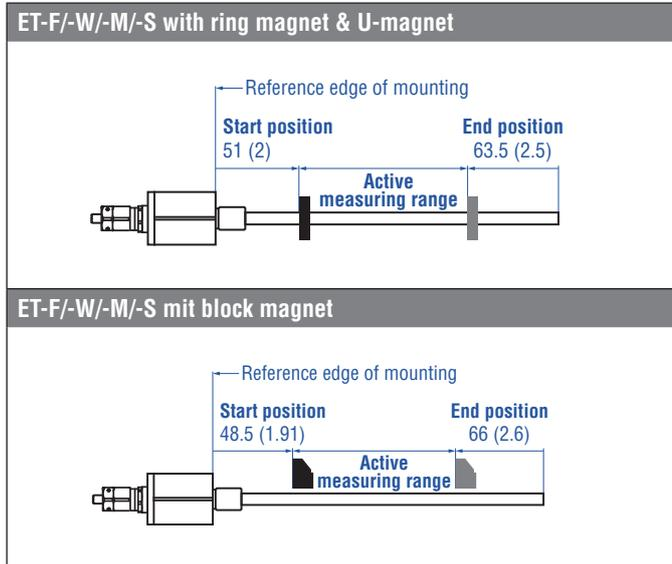
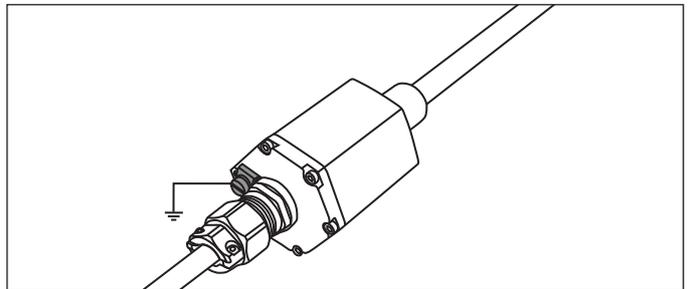
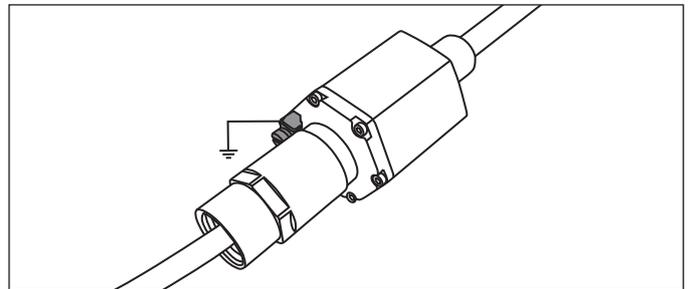

Fig. 13: Start and end positions of magnets
Fig. 14: Grounding via ground lug (version A, N)
Fig. 15: Grounding via ground lug (version E)
- Mount block magnets centrically over the sensor rod or the sensor profile. The maximum permissible air gap must not be exceeded (Fig. 13/ Fig. 14). Take care to mount the primary sensor axis in parallel to the magnet path in order to avoid damage to the carriage, magnet and sensor rod profile.
Connect the sensor electronics housing to machine ground. Ground sensor type ET version A (with ATEX/IECEX/CEC NEC/CCC approval) via ground lug as shown in Fig. 14. Ground the sensor type ET version N (not approved) via ground lug as shown in Fig. 14 or via thread. Ground sensor type ET version E (with ATEX/IECEX/CEC NEC/CCC approval) via ground lug as shown in Fig. 15.